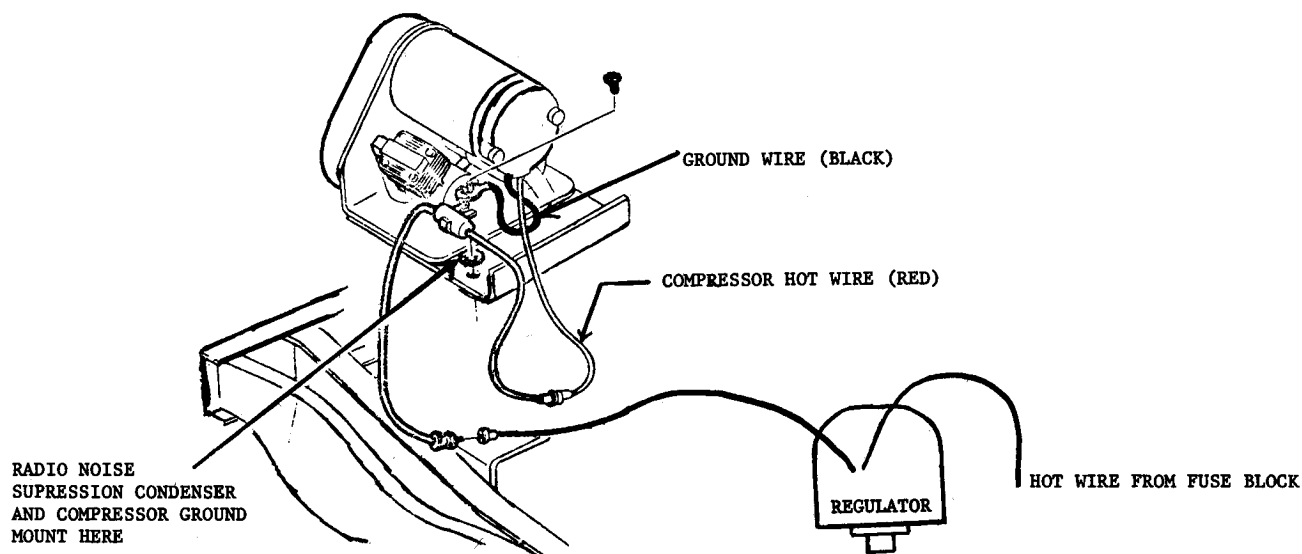

FIGURE 8
15. Wire compressor and regulator as shown (Figure 8). Standard wire splices may be used instead of the connectors shown.